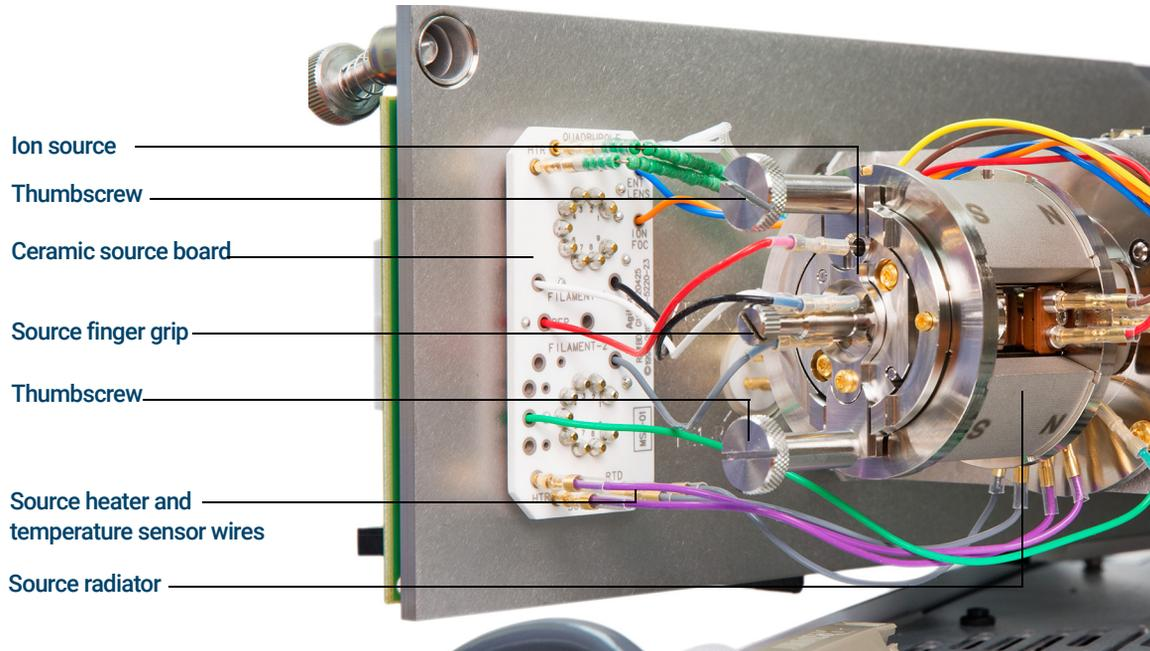

Figure 35. The analyzer chamber for the HES MSD
- 3 Remove the two large thumbscrews that hold the ion source in place. (See **Figure 35** on page 122.)
- 4 Disconnect the wires from the EI HES. (See **Figure 35** on page 122.) Do not bend the wires any more than necessary. (See **“To Connect/Disconnect Wiring to the EI HES”** on page 123.)